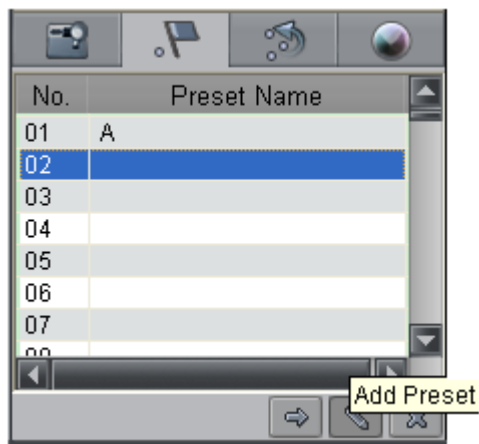

Figure 4.2.15 Add Preset
**Add Preset:** After having moved PTZ to the desired position, click the  icon from the Preview interface, select a preset number from the list, and finally click the *Add Preset* button to enter the *Add Preset* dialog box. Input the preset name in the text box, and then click *OK* to add the preset. Refer to Figure 4.2.15 and Figure 4.2.16. The preset can also be added by right-clicking the preset number and select *Add* submenu.